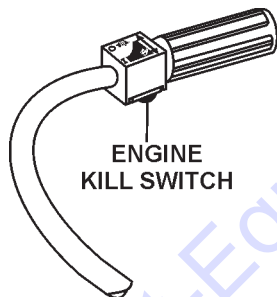

Figure 19. Engine Kill Switch
3. Press and hold the engine **KILL** switch (Figure 19) to shutdown the engine. The engine kill switch is located underneath the metal square box on the handle.
1. Press and hold the engine **KILL** switch (Figure 19).